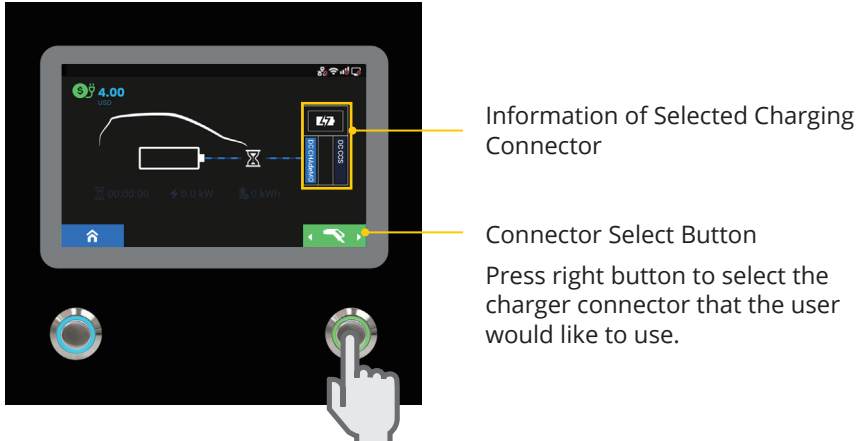

Figure 6. Preparing Screen
- 1) Press the right button to select the charger connector the you would like to use. See Figure 6.